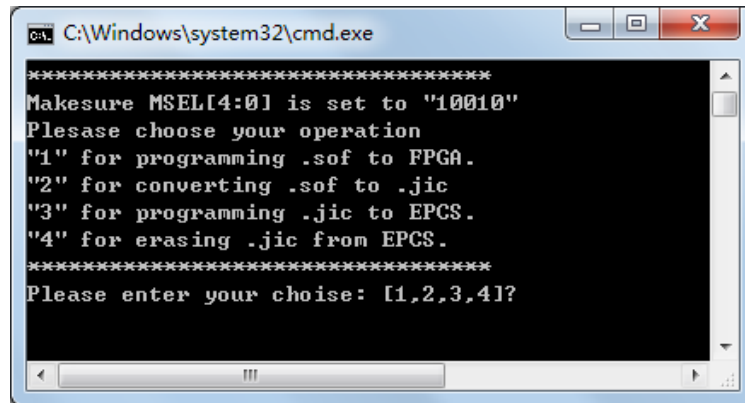

Figure 5-1 Command line of the batch file to program the FPGA and EPCS device
- For the ease of execution, a demo_batch folder is provided in the project. It is able to not only load the bit stream into the FPGA in command line, but also program or erase .jic file to the EPCS by executing the “**test.bat**” file shown in **Figure 5-1**